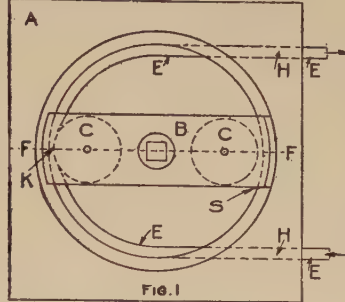
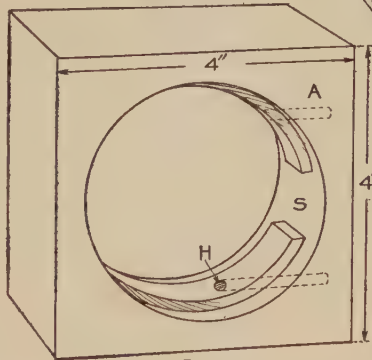

Fig. 1
Fig. 3
A simple rotary pump is constructed on the principle of creating a vacuum in a rubber tube and so causing water to rise to fill the vacuum. Figs. 3, 4 and 5 show all the parts needed, excepting the crank and tubing. The dimensions and description given are for a minimum pump, but a larger one could be built in proportion.
Through the center of a block of wood 4 in. square and $\frac{7}{8}$ in. thick (A, Figs. 1, 2 and 3) saw a circular opening $2\frac{7}{8}$ in. in diameter. On each side of this block cut a larger circle $3\frac{1}{4}$ in. in diameter, having the same center as the first circle (Fig. 3). Cut the last circles only $\frac{1}{4}$ in. deep, leaving the first circle in the form of a ridge or track $\frac{3}{8}$ in. wide, against which the rubber tubing, E, is compressed by wheels. Bore two $\frac{1}{4}$ -in. holes (HH, Fig. 1) from the outside of the block to the edge of the inner circle. Put the rubber tube, E, through one of these holes, pass it around the track and out through the other hole. Notice the break (S) in the track; this is necessary in order to place in position the piece holding the wheels.